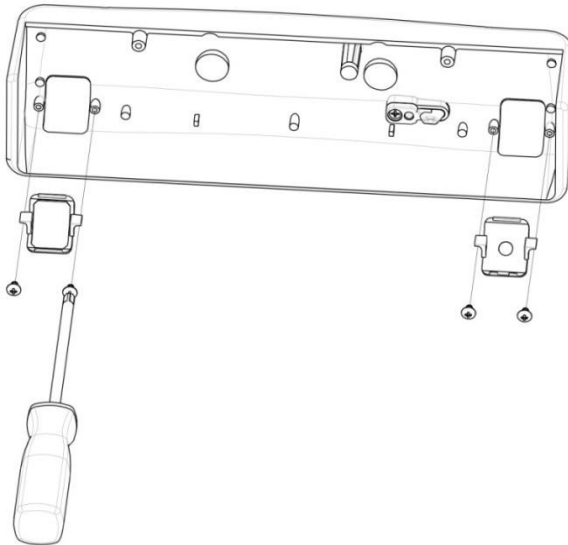

Figure 3. Removing, Repositioning, and Reinstalling the Module Inserts
2. REMOVE, REPOSITION, and REINSTALL the module inserts in the cover, as necessary, using a #1 Phillips screwdriver (see Figure 3, “Removing, Repositioning, and Reinstalling the Module Inserts.”)